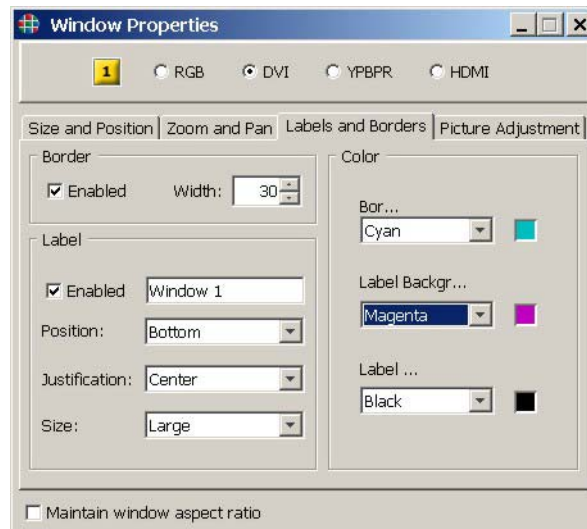

Figure 3-12 Labels and Borders Tab
1. On the **Windows Properties** page, select the **Labels and Borders** tab (Figure 3-12).